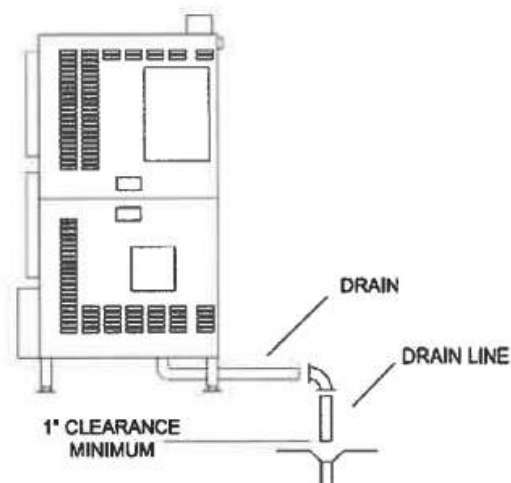

Figure 3-5
3. Free air venting requires a minimum 1" clearance between the end of the drain line and the top of the floor drain. See Figure 3-5.
11. Refer to Figure 3-5: Connect the drain to the appliance.